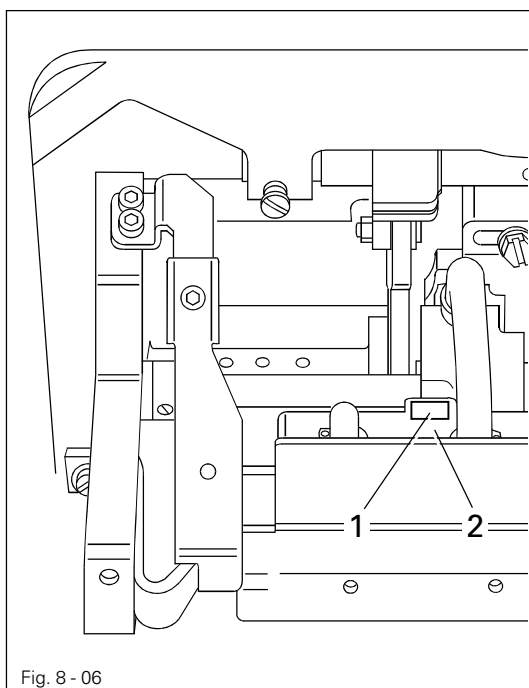

Fig. 8 - 06
- Remove pin 1 of the oil reservoir 2 (Fig. 8 - 06). The pin serves only to protect the machine from damage during transport and must not be used when sewing.